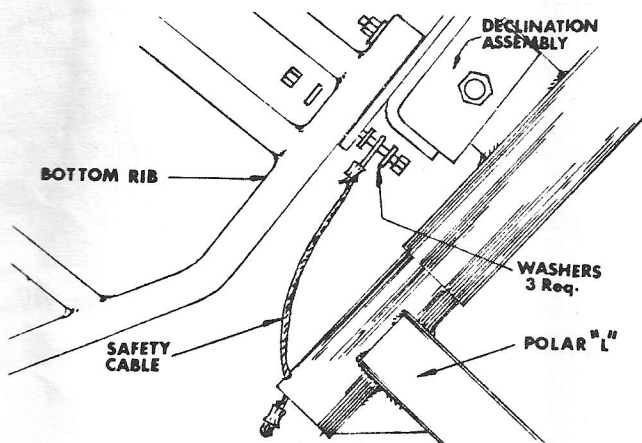

Fig. 3
14. Attach the end of the safety cable, with the "eye", to the outside bolt holding the lower rib to the back plate. (Ref: Fig. 3) This is accomplished by removing the nut and bolt from the rib and adding a 5/16" washer over the bolt. Insert bolt through the eye of the cable and one more 5/16" washer, and install as before. (be sure to reinstall the original washer next to the nut). Retighten the nut and bolt.